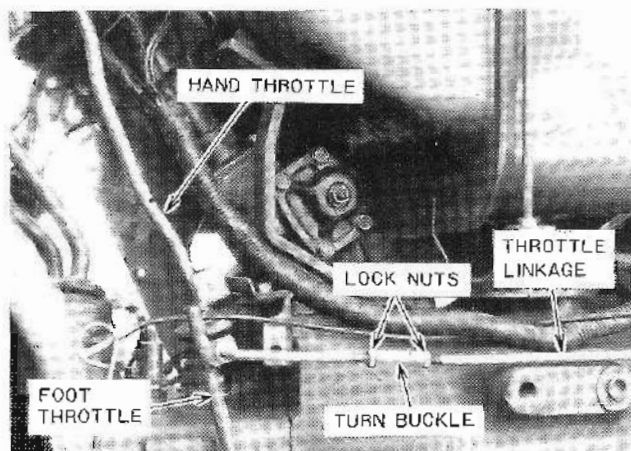

Figure 57 – Throttle Adjustment
4. Install the leak-off line, Figure 57. Tighten the leak-off line nuts to 3-4 kg-m (30-39 N. m.).
1. Loosen the lock nuts, Figure 57.